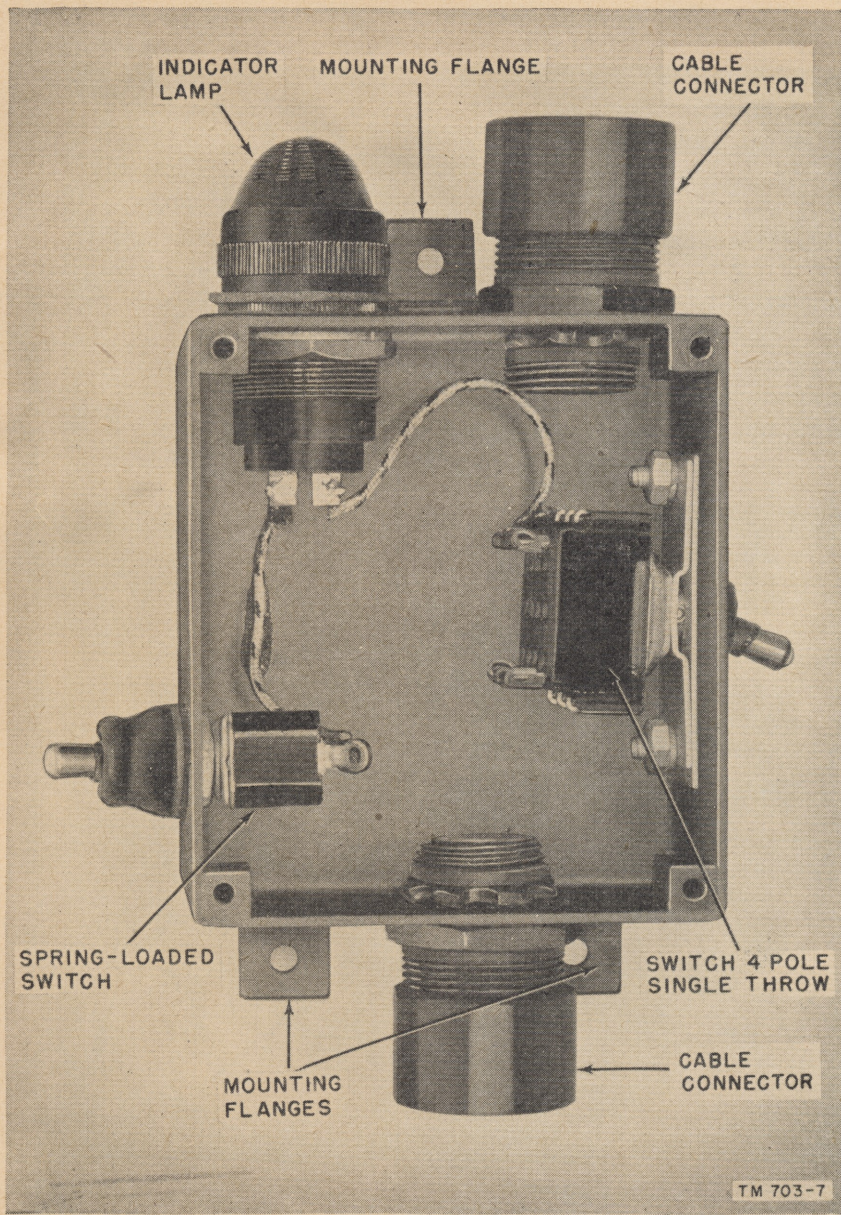
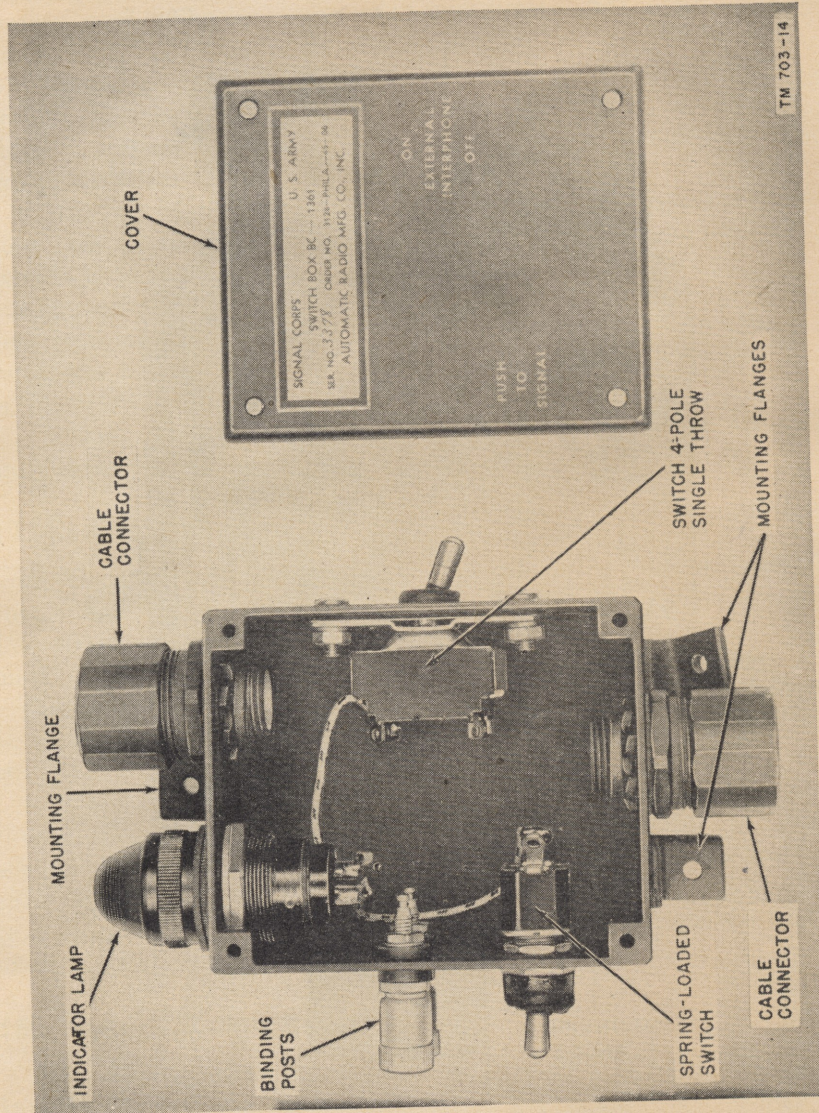
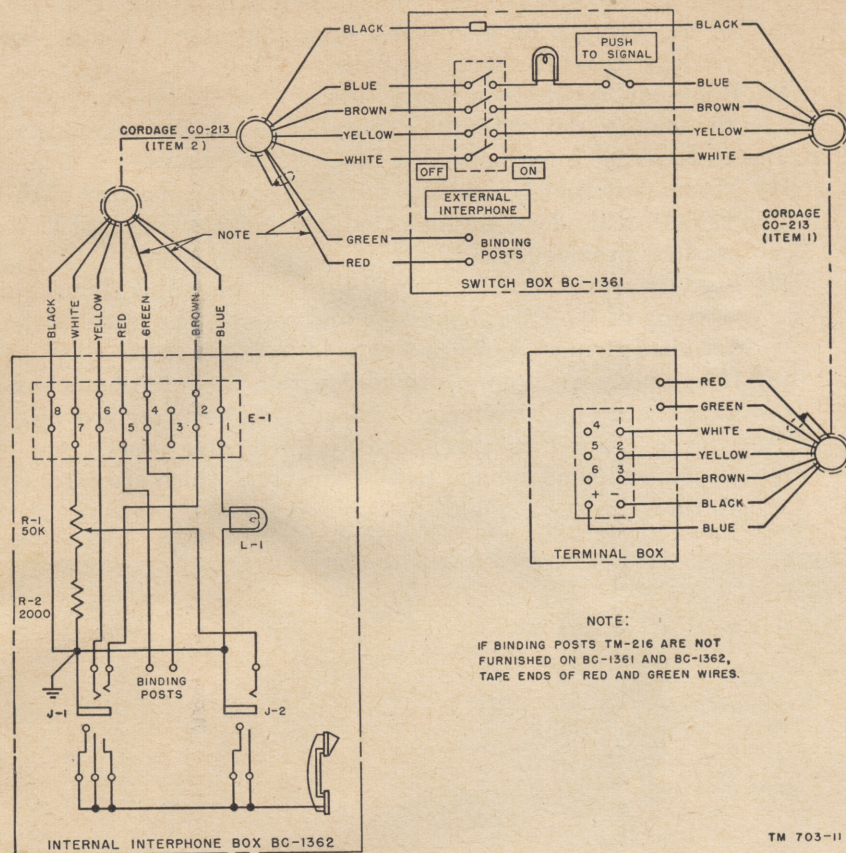

Figure 7. Switchbox BC-1361, interior view.
Figure 8. Switchbox BC-1361, later models containing binding posts.
Figure 13. Interphone Extension Kit RC-298, schematic diagram.
b. **SWITCHBOX BC-1361.** Switchbox BC-1361 is a $\frac{1}{16}$ -inch thick, steel box, measuring approximately 4 inches long by $3\frac{1}{2}$ inches wide by 2 inches deep. The box has three projecting flanges for mounting it inside a vehicle. The cover, which has a rubber gasket for making the box watertight, is held on the box by four screws positioned at the corners of the cover. The entire switchbox has been made moisture- and fungi-resistant. An indicator lamp and two switches are contained within the switchbox. The switch positions are labeled on the box cover for ease of operation. Two cable connectors on opposite sides of the switchbox provide openings for routing Cordage CO-213 to External Interphone Box BC-1362 (fig. 7). Later models of Switchbox BC-1361 have two binding posts to provide the necessary connections to an external field telephone through the connections of External Interphone Box BC-1362 (fig. 8).
Before installing the equipment in the vehicle, study the schematic diagram, figure 13.
- (1) Cut Cordage CO-213 (items 1 and 2, fig. 13) to the proper lengths as specified for installation in a particular vehicle, and prepare the cordage ends.
- (2) Pass the ends of the cordage into Switchbox BC-1361 through the two connectors provided.
- (3) Connect the proper cordage leads to the switch in Switchbox BC-1361 as shown in figure 7.
- (1) Mount Switchbox BC-1361 in the vehicle in the location shown by the applicable installation manual.
- (2) Connect the cordage leads (item 1) to the terminals of the vehicle terminal box (fig. 13). Before applying power, make certain that terminals 1, 2, 3, and — (minus) in the